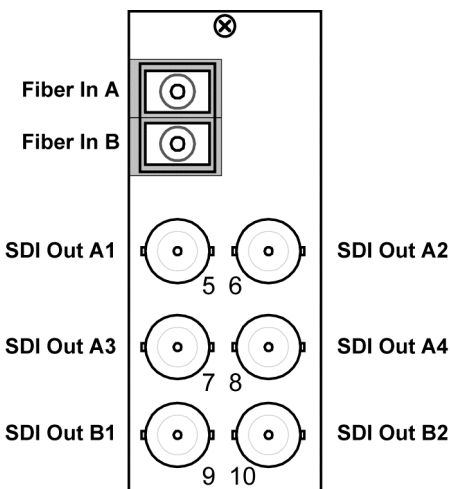

Figure 2.5 Cable Connections for the **RM20-9213-B** Rear Module
- **RM20-9213-B** Full Rear Module — Each 9213-2OE occupies two slots and provides two optical inputs, and six SDI outputs. **Figure 2.5**